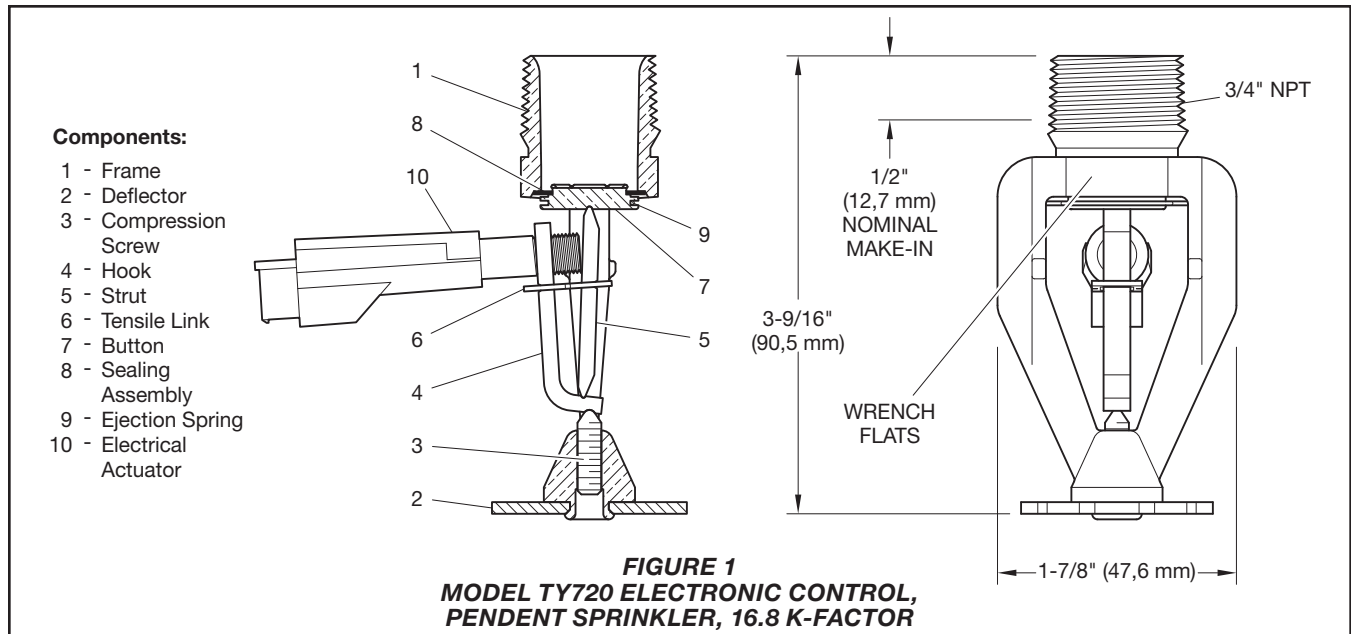

FIGURE 1
The TYCO Model TY720 Pendent Sprinkler is an electronically controlled sprinkler having a nominal K-factor of 16.8 (Ref. Figure 1).
Step 3. Apply W-Type 21 Sprinkler Wrench to sprinkler by fully seating wrench recess on sprinkler wrench flats (Ref. Figure 1).